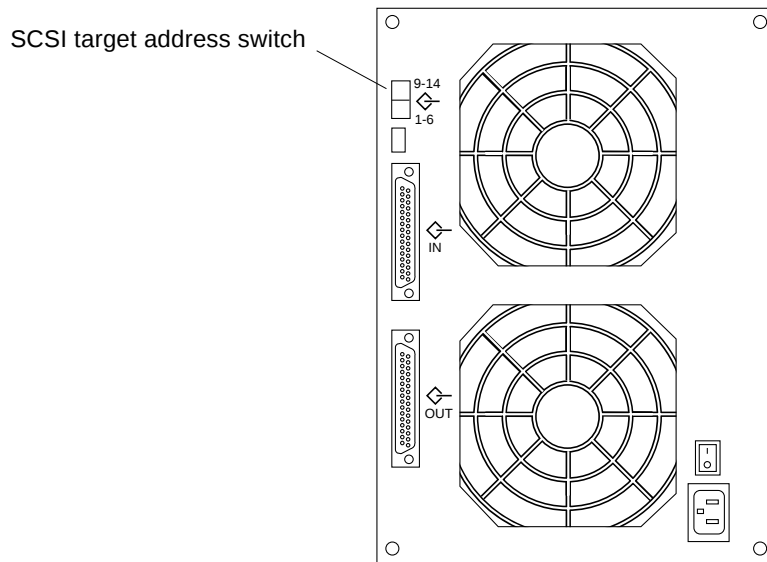

FIGURE B-2 SCSI Target Address Switch Location
- If you have a fully loaded unit connected to an UltraSCSI or fast wide SCSI bus, you can install a host adapter card (see Section B.2, “Host Adapter Cards”), or select one of two preset ranges of SCSI target ID numbers to assign to the drives: 1 through 6, or 9 through 14. To select the SCSI target address range, set the switch on the back of the unit to the 1–6 or 9–14 position. See FIGURE B-2 for the switch location.
When you install the SPARCstorage MultiPack 2, you must choose either the 1–6 or 9–14 SCSI target address range for your drives. To select the range, set the SCSI target address switch on the back of the enclosure to the 1–6 or 9–14 position (FIGURE B-2). The default switch setting is 1–6.